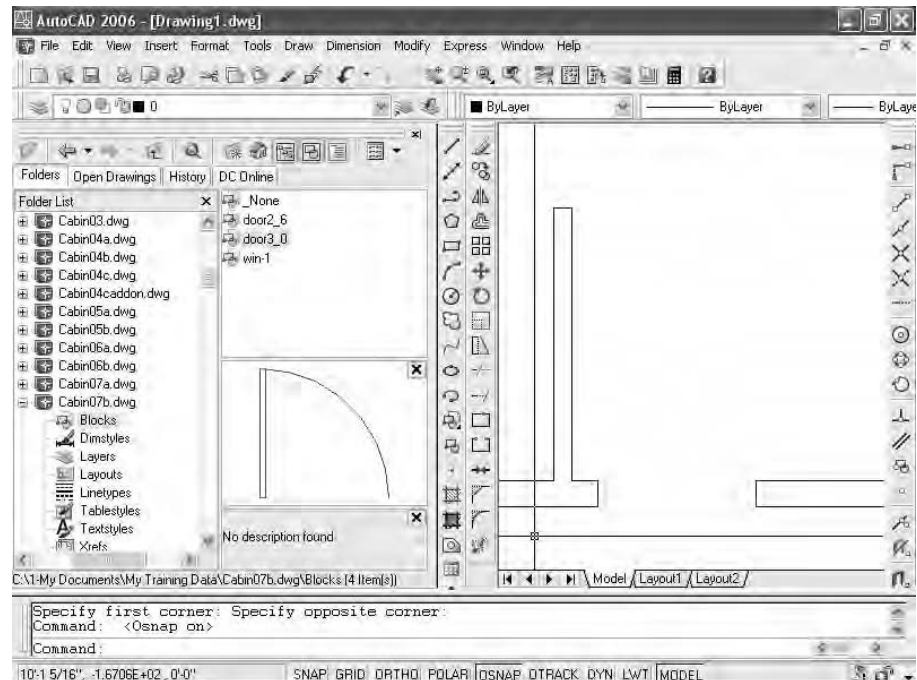

FIGURE 7.42: Zoomed in to the front door area with the DesignCenter docked
4. Dock DesignCenter on the left side of the drawing area if it's not already there, and then zoom in to the front door area of the drawing (see Figure 7.42). Endpoint Osnap needs to be running.